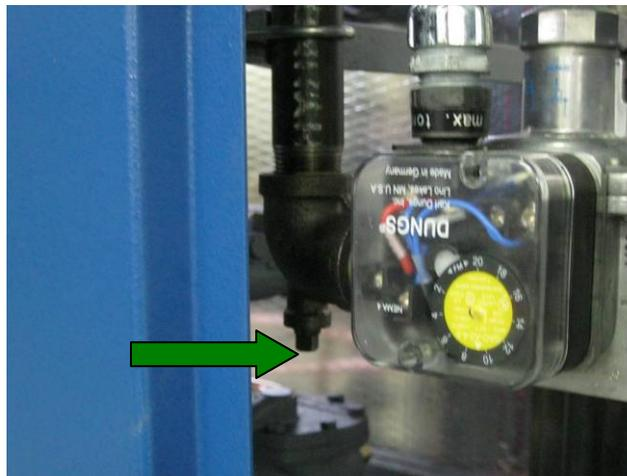

Figure 4 - Purge Plug
- 1) Remove purge plug (Figure 4)